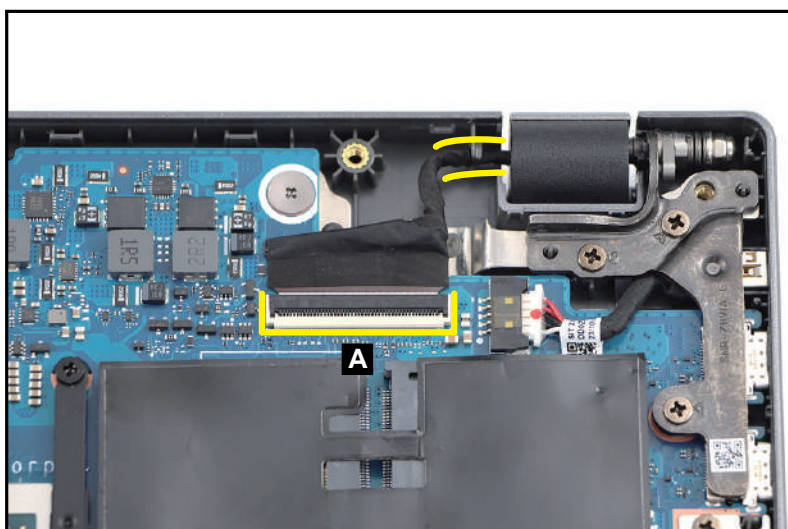

Figure 3-36. LCD Module Removal
1. Disconnect the LCD cable from the mainboard connector (A). Then unroute the cable from the cable guides as shown in Figure 3-36.